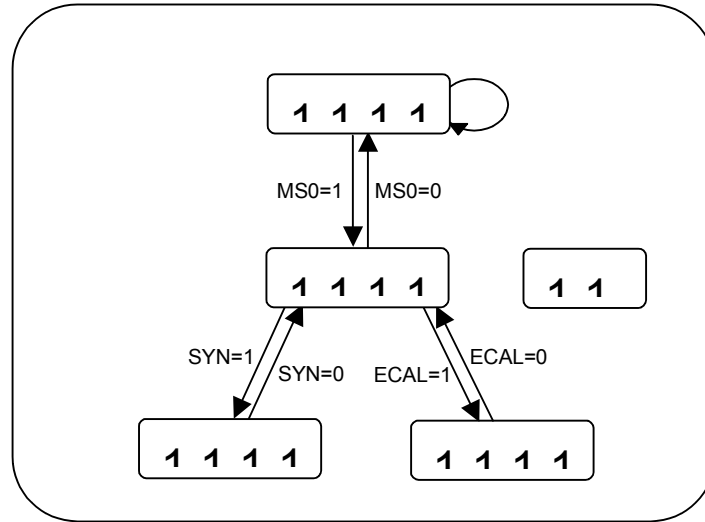

Figure 1: SH38300/38301 State Diagram
The state machine inside the chip controls the SH38300/38301 GFSK transceiver operation. During normal operation, the SH38300/38301 is in one of five states (i.e., SLEEP, STBY, RADIO, CAL, TEMP). The state diagram is shown in Figure 1 below.
The SH38300/38301 must be in the TEMP (Temperature measurement) state to do temperature measurement as shown in Figure 1. The TEMP state is an independent state. It may execute temperature measurement in the TEMP state simultaneously when the transceiver is in other state (except the SLEEP state) for doing some thing. For doing temperature measurement, there are some configurations must be set. First, the EXDR bit (**Mode control register** bit 8) must be set to 1. The ET bit (**Calibration control register** (I) bit 0) for enabling temperature measurement must be set to “1” to enter the TEMP state. After the measurement is done, the ET bit will be set to “0” automatically and the transceiver will leave the TEMP state. The state transition to the TEMP state will postpone if the calibration process or RSSI measurement is executing. Similarly, the state transition of the CAL state or the RSSI sub-state will delay until the temperature measurement is done. The following figure is RSSI measurement timing.